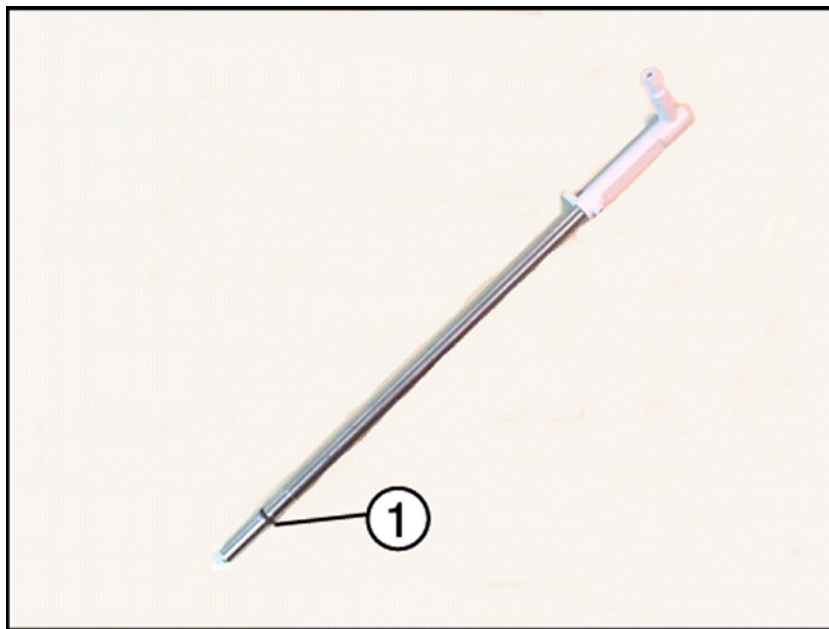

Figure 4 Water connecting pipe
5. Remove old O-ring (Figure 4/1) from the water connecting pipe using a small screwdriver and dispose of the old O-ring according to local waste disposal regulations.
6. Push new O-ring (Figure 4/1) into the groove of the water connecting pipe.